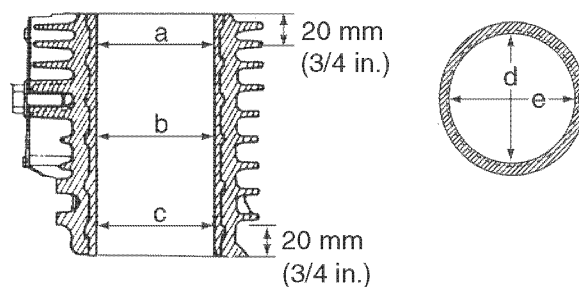

Figure 6-66
- Take measurements at three places (**Figure 6-66, (a, b, c)**) and in two directions (**Figure 6-66, (d, e)**) in each cylinder. See *Cylinder Block* on page 6-15 for the service limit. Record the measurements.